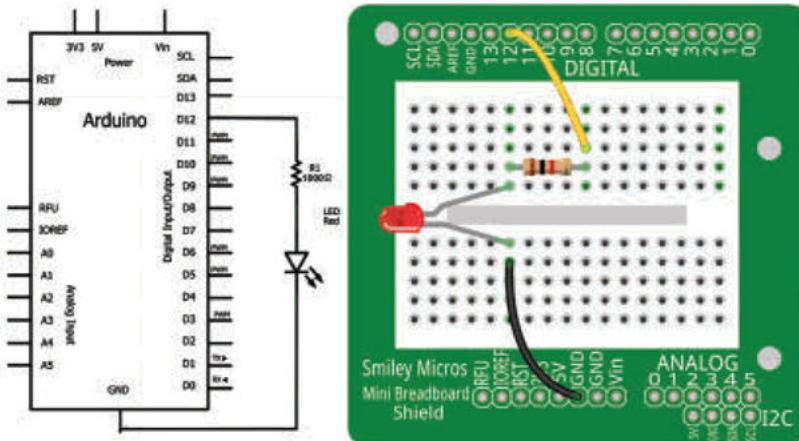

FIGURE 30: LED on pin 12 circuit.
- ❑ Hook up the wire to pin 12 and ground as shown in **Figure 30**.